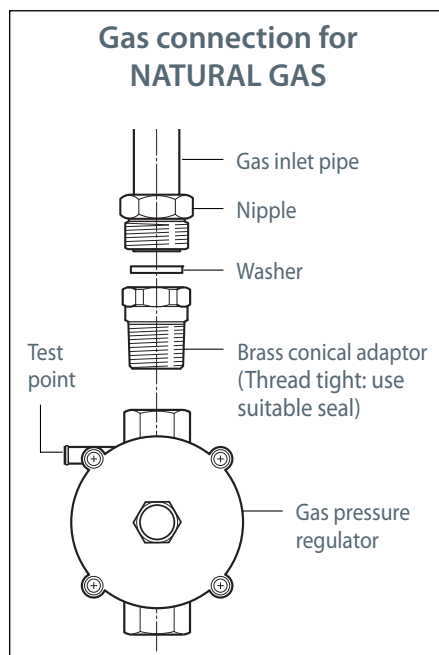

Fig. 8 Natural gas connection
- For Natural gas, connect the gas supply to the gas pressure regulator which is supplied with the appliance (Fig.8). Adjust the regulator to obtain a test point pressure of 1 kPa with the two semi-rapid burners operating at the maximum.